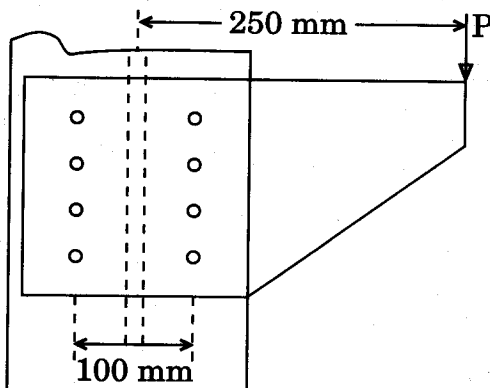

Figure 8
- (b) A bracket plate is connected to a flange of ISMB 500 as shown in Figure 8. Find the safe load P carried by the joint. M 16 bolts of grade 4.6 are provided at a pitch of 50 mm and end distance 30 mm.